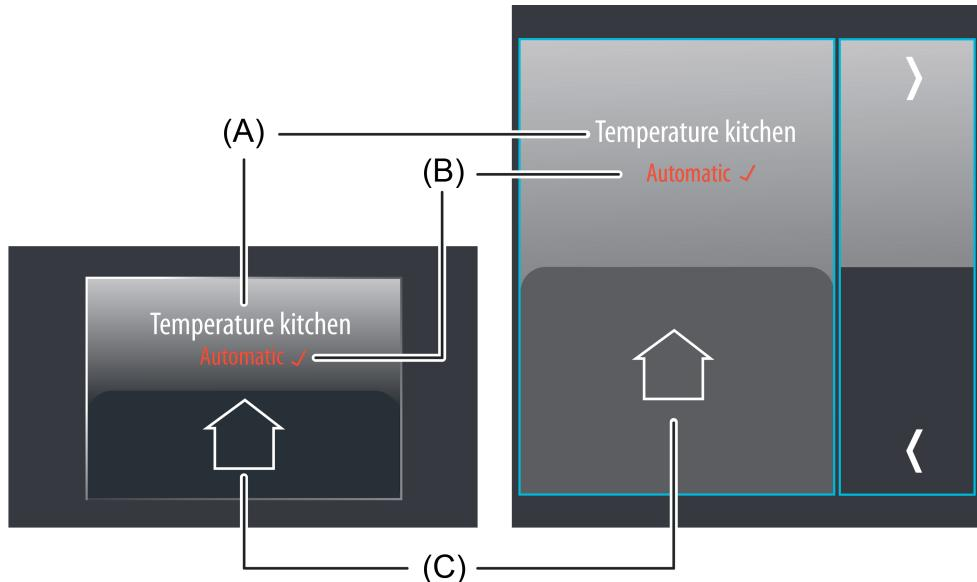

Figure 39: Example of an operating and display element of the function "Operating mode switchover KNX"
The display area contains different display elements (figure 39) that are influenced by parameters. A name can be assigned to each KNX function in the configuration software (A). This text name is centred in the display element for display whereby controllable KNX functions are identified for the user (e.g. "room temperature kitchen"). In addition, a status text (B) can be displayed below the name, which either displays values in plain text depending on the object value of the status feedback, or alternatively, directly depending on the operating element's operating mode presetting of the respective operating mode selected. The displayed text can be configured separately for each operating mode in the configuration software (e.g. "Comfort"). After a device reset, the display shows "---" until a status object value of the status text is received or an operating mode is predefined.
The controller must return its status to the display element to enable a valid acceptance of the last specified controller operating mode to be displayed. This takes place via the objects "Feedback status" and "Feedback forced" (figure 39). If the status feedback of the controller is not used (parameter "Use feedback object" is deselected), the display element automatically assumes after each presetting by the user that the operating mode last specified by the controller was also accepted as valid by the controller.